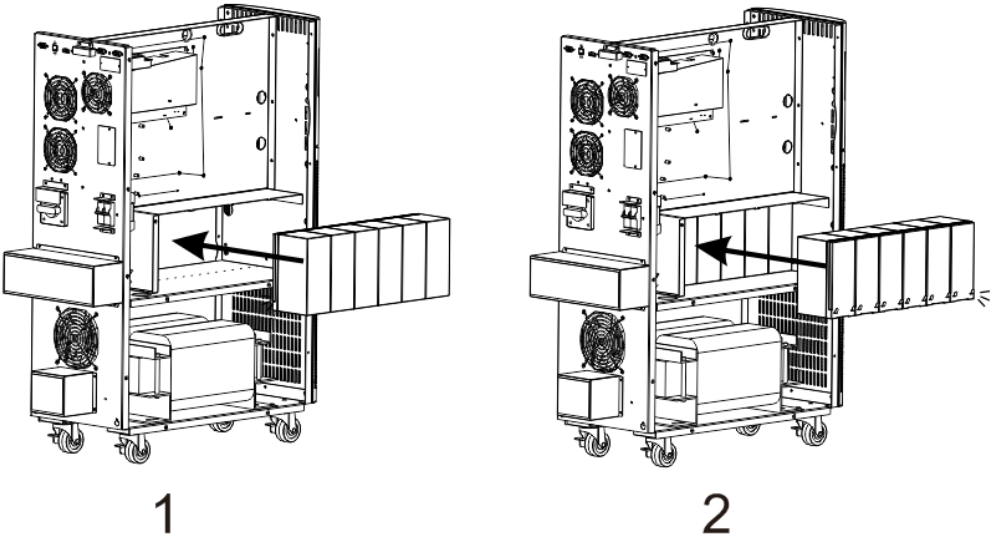

FIG. 8
19. Install both sets of the new batteries on the third row (FIG. 8). **NOTE:** The battery terminals **MUST** be on the bottom side.